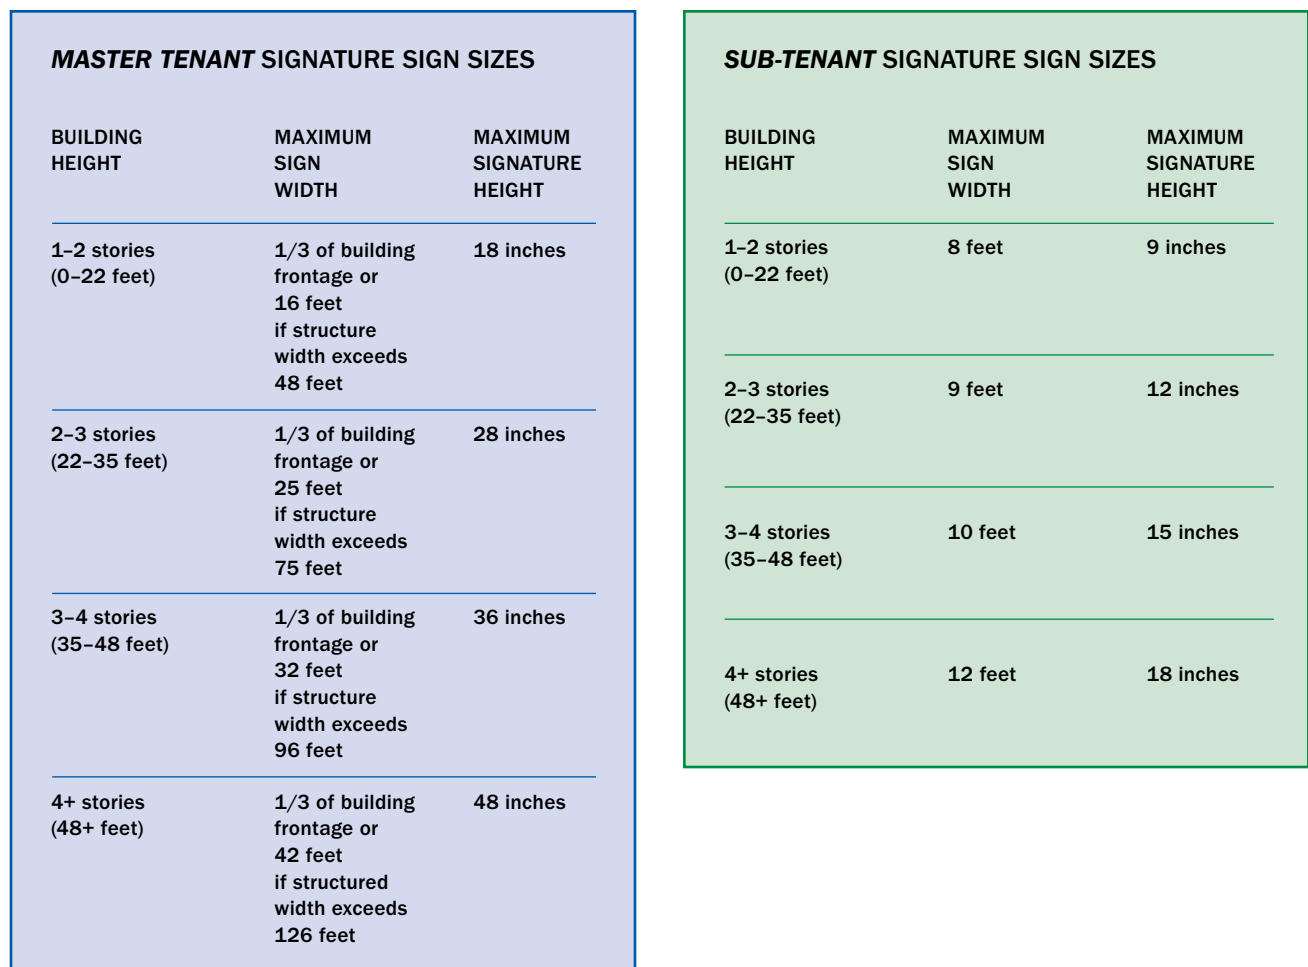

Figure 4e: Building size to corporate signature sign size specifications.
- ❶ Refer to the Master Tenant Signature Sign Size chart in these Standards to determine primary corporate sign size. *(Figure 4e)*
- ❷ Tenant corporate signature signs above a bay door may not exceed 8 feet in width or the width of the bay door, whichever dimension is less. *(Figure 4e)*
- ❸ Tenant informational signs must not exceed 8 square feet in area.
- ❶❷ Refer to the Master Tenant Signature Sign Sizes chart in these Standards. *(Figure 4e)*
- ❸ Maximum capital height for regulatory or information signs is 6 inches. No corporate signature is allowed on this sign. *(Figure 4e)*
- 1 Refer to the Master Tenant Signature Sign Sizes chart in these Standards to determine primary corporate sign size. *(Figure 4e)*
- 2 Refer to the Sub-Tenant Signature Sign Sizes chart in these Standards to determine primary corporate sign size. *(Figure 4e)*
- 1 Refer to the Master Tenant Signature Sign Sizes chart in this section. *(Figure 4e)*
- 2 Refer to the Sub-Tenant Signature Sign Sizes chart in this section. *(Figure 4e)*